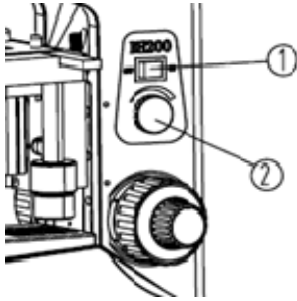

Fig. 7 Illumination
Set the power switch ① to ON position (Fig.7). Use the brightness knob ② to adjust the brightness.